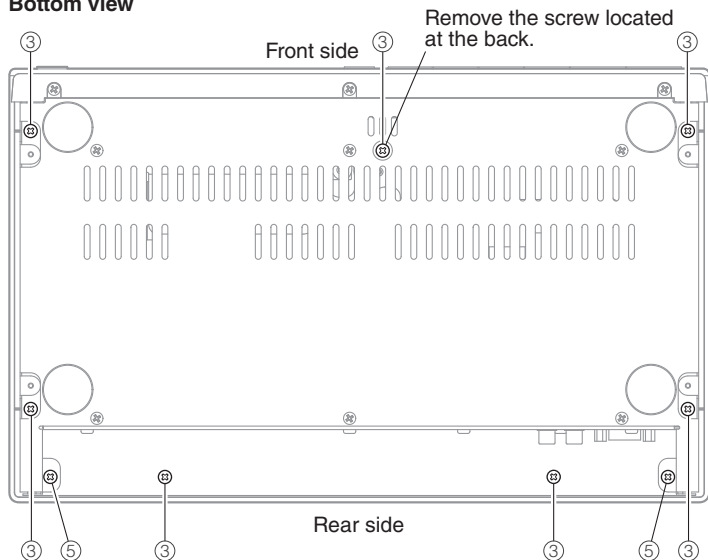

Fig. 2
- Remove 2 screws (⑤). (Fig. 2)